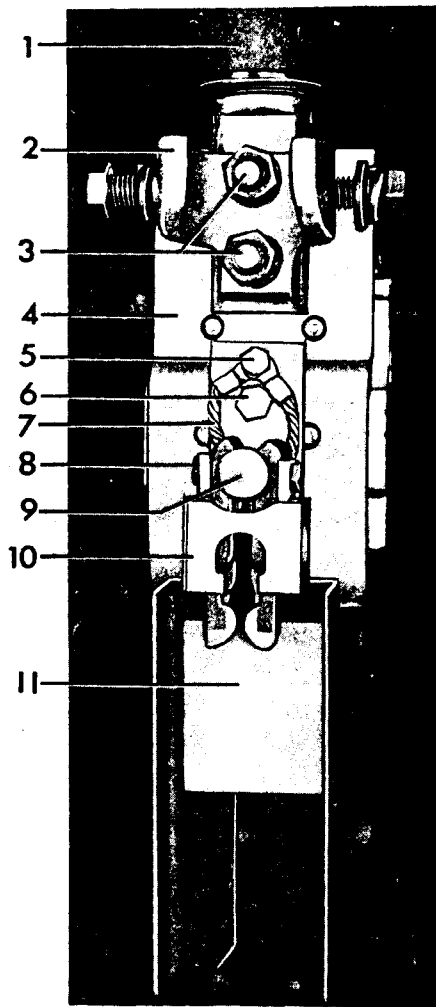
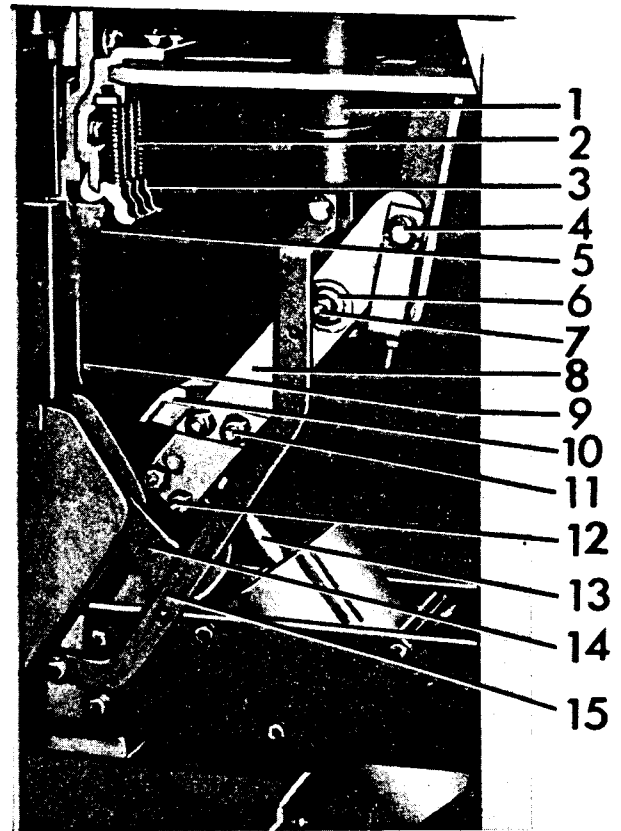

Figure 22. (8039586) Rear Bushing Assembly
Figure 23. (8038805) Contact Assembly
3. The stationary primary contact fingers (3) Figure 23, should be disassembled and the silver-plated pivot area of the contact and contact support cleaned and lubricated with G-E lubricant D50H47.
A. Stationary Arcing Contacts (10) Figure 22.
1. Disconnect the contact braids (7) from the contact fingers by removing two bolts and locking plates (8).
3. To disassemble braids from stud plate remove one bolt (5).
4. To disassemble stud plate from contact support, remove two bolts (6).
5. Reassemble in the reverse order, make sure locking plates are properly reassembled with bolts (8).
B. Movable Arcing Contact (14) Figure 23.
1. Remove the assembly bolts (12) making note of quantity and location of shims and spacers used between contacts and contact arms.
3. Close the breaker slowly to check that the movable arcing contact is approximately centered on the stationary arcing contact and that it does not rub on either side of the throat barrier (9).
D. Movable Primary Contacts (10) Figure 23.
1. Disassemble operating rod pin (4), first noting quantity and location of washers in the assembly.
2. Pry contact arms (8) apart enough to disengage pivot pins of piston assembly (13) allowing piston to drop down into its booster cylinder.
3. Rotate the two parts of the contact arm assembly away from each other so assembly bolts (11) are accessible and movable primary contacts (10) can be removed.
E. Contact Arm Assembly (8, 10, 13, 14) Figure 23.
1. Remove connection bar (15).
2. Disassemble hinge pin (7), cup bearing (6) and operating rod pin (4) noting quantity and location of any washers and spacers used in assemblies.
3. The contact arm assembly including the piston assembly (13) can now be removed.
4. When reassembling, first insert piston tube assembly (13) into the booster cylinder and reassemble the cup bearing, making sure the silvered contact washers between the bushing and contact arms (both sides) are in place.
5. Reassemble operating rod pin (4) and connection bar (15).
5. Disassemble the spring retainer (4) by removing mounting bolts (5).
6. Referring to Figure 22, disassemble the contact support (4) and interrupter mount-
3. Remove the connection bar (15) Figure 23, cup bearing (6) and hinge pin (7).
5. When reassembling, first mount the bushing and assemble the cup bearing (6), contact arm (8), and replace pin (7) being sure the silvered contact washers between the bushing and contact arms are in place. The contact surfaces at the hinge point of the contact blade and bushing should have a thin coating of D50H47 grease.